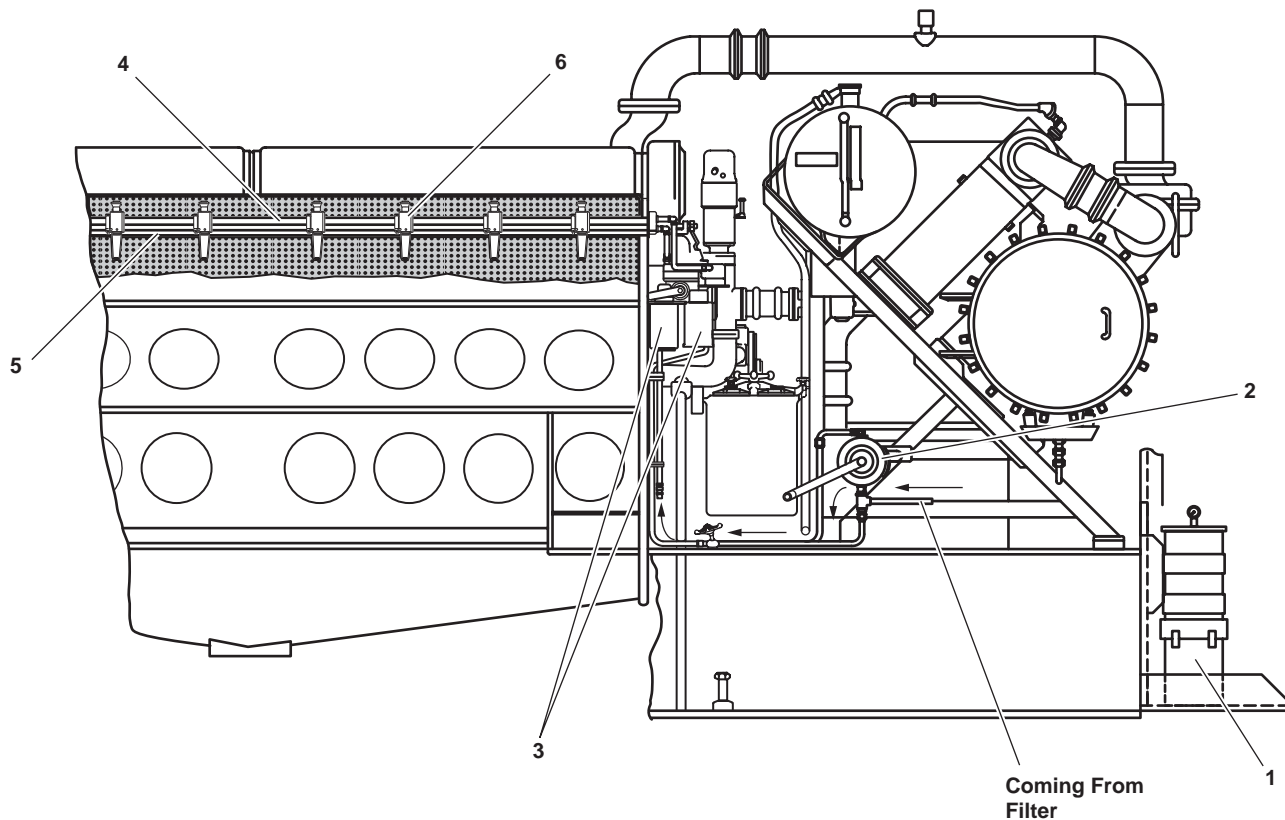

Figure 1. Main Engine Fuel System
The engine fuel oil system consists of four front mounted fuel filter/water separators (figure 1, item 1), a hand pump (figure 1, item 2), an engine mounted duplex fuel filter set (figure 1, item 3), a fuel supply manifold (figure 1, item 4), and fuel return manifold (figure 1, item 5). The fuel pump draws in fuel from the day tank to the engine front mounted fuel filter/water separator (figure 1, item 1). Fuel then passes through the duplex filter element and is sent to the fuel manifold. Fuel in the fuel manifold of the injection pump housing is the supply for the injection pumps. Injection pumps (one per cylinder) send fuel to the fuel injection nozzle. A small amount of fuel is pumped into the cylinder at a very high pressure through the needle valve and the spray tip of the fuel injector (figure 1, item 6). The amount of fuel injected depends upon the position of the plunger, which is controlled by the injector rack and governor. Excess fuel flowing through the fuel return manifold is then returned to the day tank. Excess fuel also cools and lubricates the injectors.